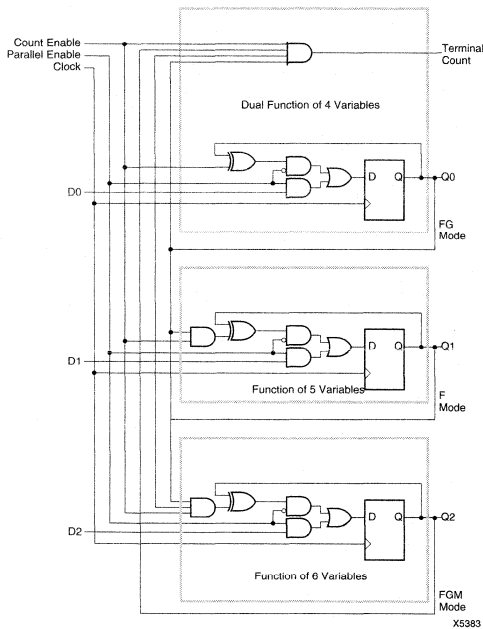

Figure 7: C8BCP Macro.
The combinatorial-logic portion of the CLB uses a 32 by 1 look-up table to implement Boolean functions. Variables selected from the five logic inputs and two internal block flip-flops are used as table address inputs. The combinatorial propagation delay through the network is independent of the logic function generated and is spike free for single input variable changes. This technique can generate two independent logic functions of up to four variables each as shown in Figure 6a, or a single function of five variables as shown in Figure 6b, or some functions of seven variables as shown in Figure 6c. Figure 7 shows a modulo-8 binary counter with parallel enable. It uses one CLB of each type. The partial functions of six or seven variables are implemented using the input variable (E) to dynamically select between two functions of four different variables. For the two functions of four variables each, the independent results (F and G) may be used as data inputs to either flip-flop or either logic block output. For the single function of five variables and merged functions of six or seven variables, the F and G outputs are identical. Symmetry of the F and G functions and the flip-flops allows the interchange of CLB outputs to optimize routing efficiencies of the networks interconnecting the CLBs and IOBs.